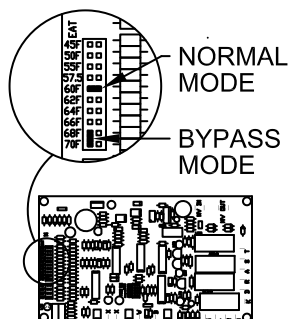

Figure 1
- a. **On EDSM and EDSM/TP control systems,** if the remote control station hasn’t been tested and the ambient temperature is at or above the Entering Air Thermostat (EAT) set point, note the set point position and pull the jumper off the temperature set point (EAT Enabled Mode) and reinstall it sideways on the terminal block (Bypass Mode) as shown in Figure 1. Refer to the Individual Component Description section for additional information.